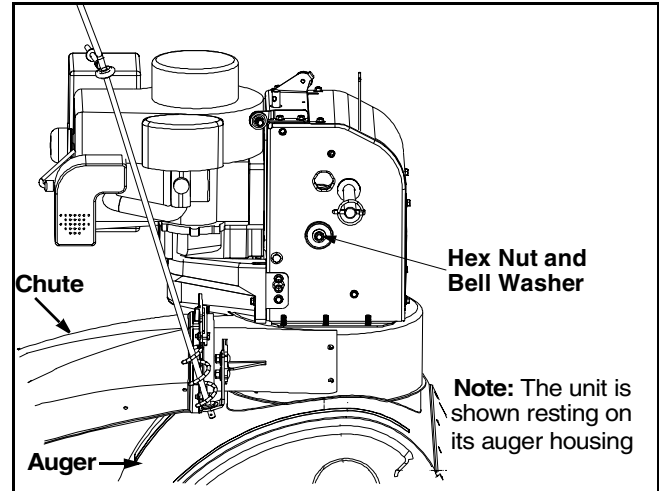

Figure 17
- Tip the snow thrower up and forward, so that it rests on the housing. See Figure 17.
- Using a wrench to hold the shaft, loosen, but do not completely remove, the hex nut and bell washer on left end of gear shaft. See Figure 17.